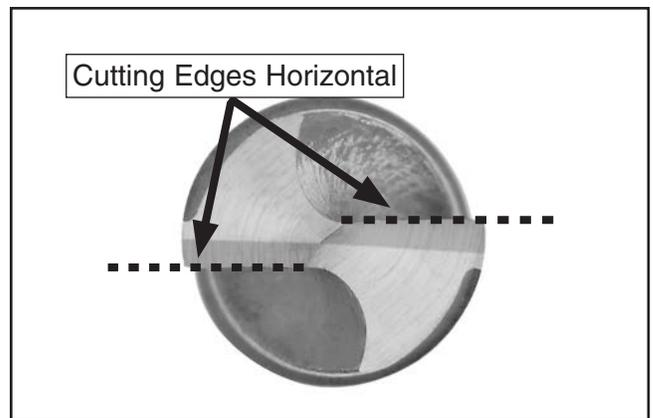

Figure 24. Bit rotated so that the cutting edges are horizontal.
- Rotate the bit so that the cutting edges are horizontal, as shown in **Figure 24**.